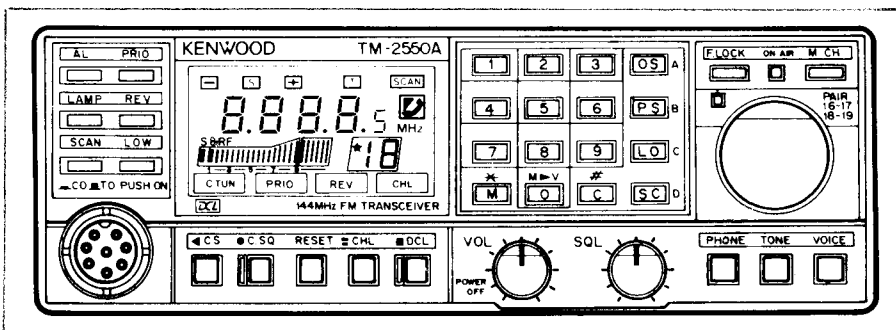

Fig 1—Front view of the Kenwood TM-2500-series panel, showing all controls and indicators.
The most prominent control feature is the multifunction 4½ digit LCD panel (see Fig 1). It shows the operating frequency (when MHz is lit), Digital Coded Squelch (DCS) code, ASCII values for the call sign sent with DCS data, CTCSS tone frequency (when Hz is lit) along with channel and telephone-number information during telephone-memory operation. Symbolic indicators display the activity of CTCSS tone (T); transmit-frequency offset (-, S, +); center tuning (C.TUN indicates that the squelch is open); PRIORITY-alert operation; REVERSE-offset operation; memory channels locked out of scanning (more on this later); completion of a DCL operation (DCL); SCAN operation and telephone-number transmission (an icon of a handset). A bar graph at the bottom of the display serves as an S meter during reception, as a power output meter during high-power transmission and a microphone input-level meter during low-power transmission. A memory-channel display shows the active memory channel (numbers 1 through 19, plus letters A, b, d or U) and whether that channel is locked out of scan operations.